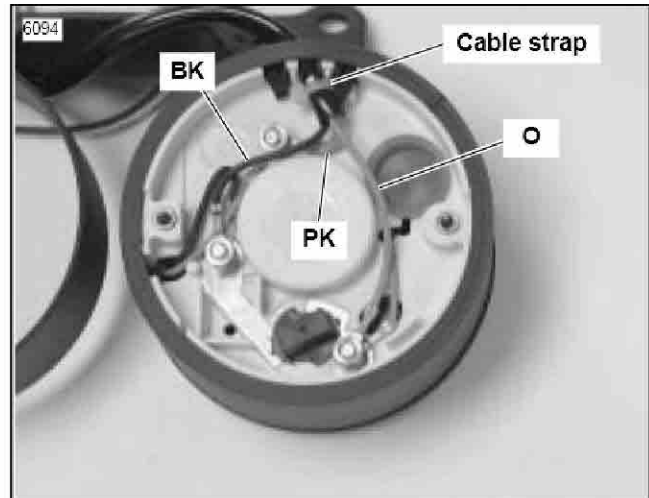

Figure 1. Tachometer Wiring
2. See Figure 1. NOTE LOCATION OF EACH WIRE COLOR BEFORE REMOVING ANY WIRE. Remove the 9/32 in. nuts from the three terminal studs, and remove the three harness wires identified in the figure from the studs. Leave the other wires in place.